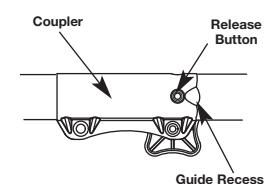

Fig. 2
- Press and hold the release button (Fig. 2).
NOTE: Aligning the release button with the guide recess will help installation (Fig. 2).